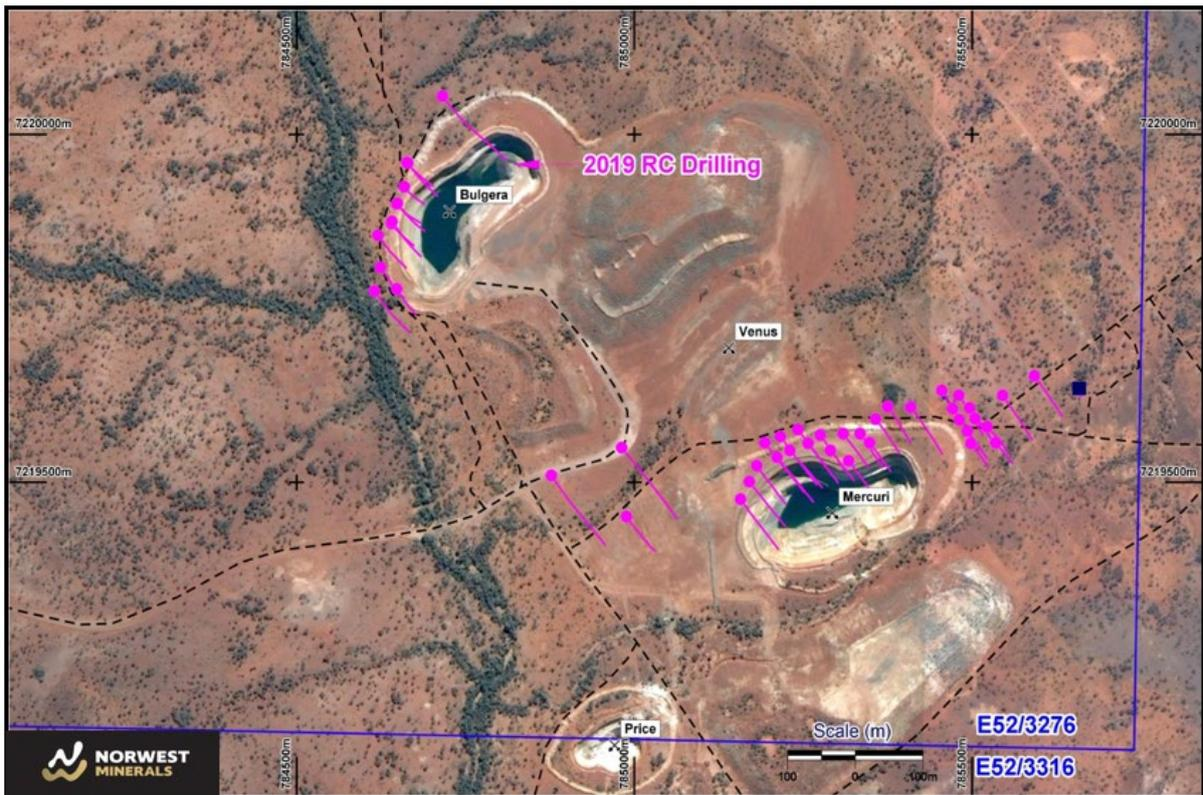

Figure 1 – Bulgera gold project - reverse circulation (RC) drill collar locations for all 46 holes.
During the period, Norwest completed its first RC drilling programme at the company’s 100% owned Bulgera Gold project located near the large Plutonic Gold Mine. The drilling targeted multiple lodges of gold mineralisation below and along the strike of the historical Mercuri and Bulgera pits where shallow ore was last mined in 2004 as supplement feed for the Plutonic Mill. The gold assay results are not yet available for the 46 RC holes drilled down dip and along strike of the historical Mercuri and Bulgera open cut pits. (Figures 1 and Table 1)
Norwest's maiden reverse circulation (RC) drilling programme at Bulgera was completed 17 December 2019. The RC drill programme targeted multiple near-surface gold lodes along strike and extending below the historic Mercuri and Bulgera open cut pits. Figure 1.
The aim of the RC drilling is to increase the Bulgera gold resource beyond the current 2 million tonnes grading 1.03 g/t gold for 65,500 ounces thereby improving the potential to generate a near-term income stream for Norwest. Collar locations from the new RC drilling are displayed in figure 1 and listed in Table 1 below.